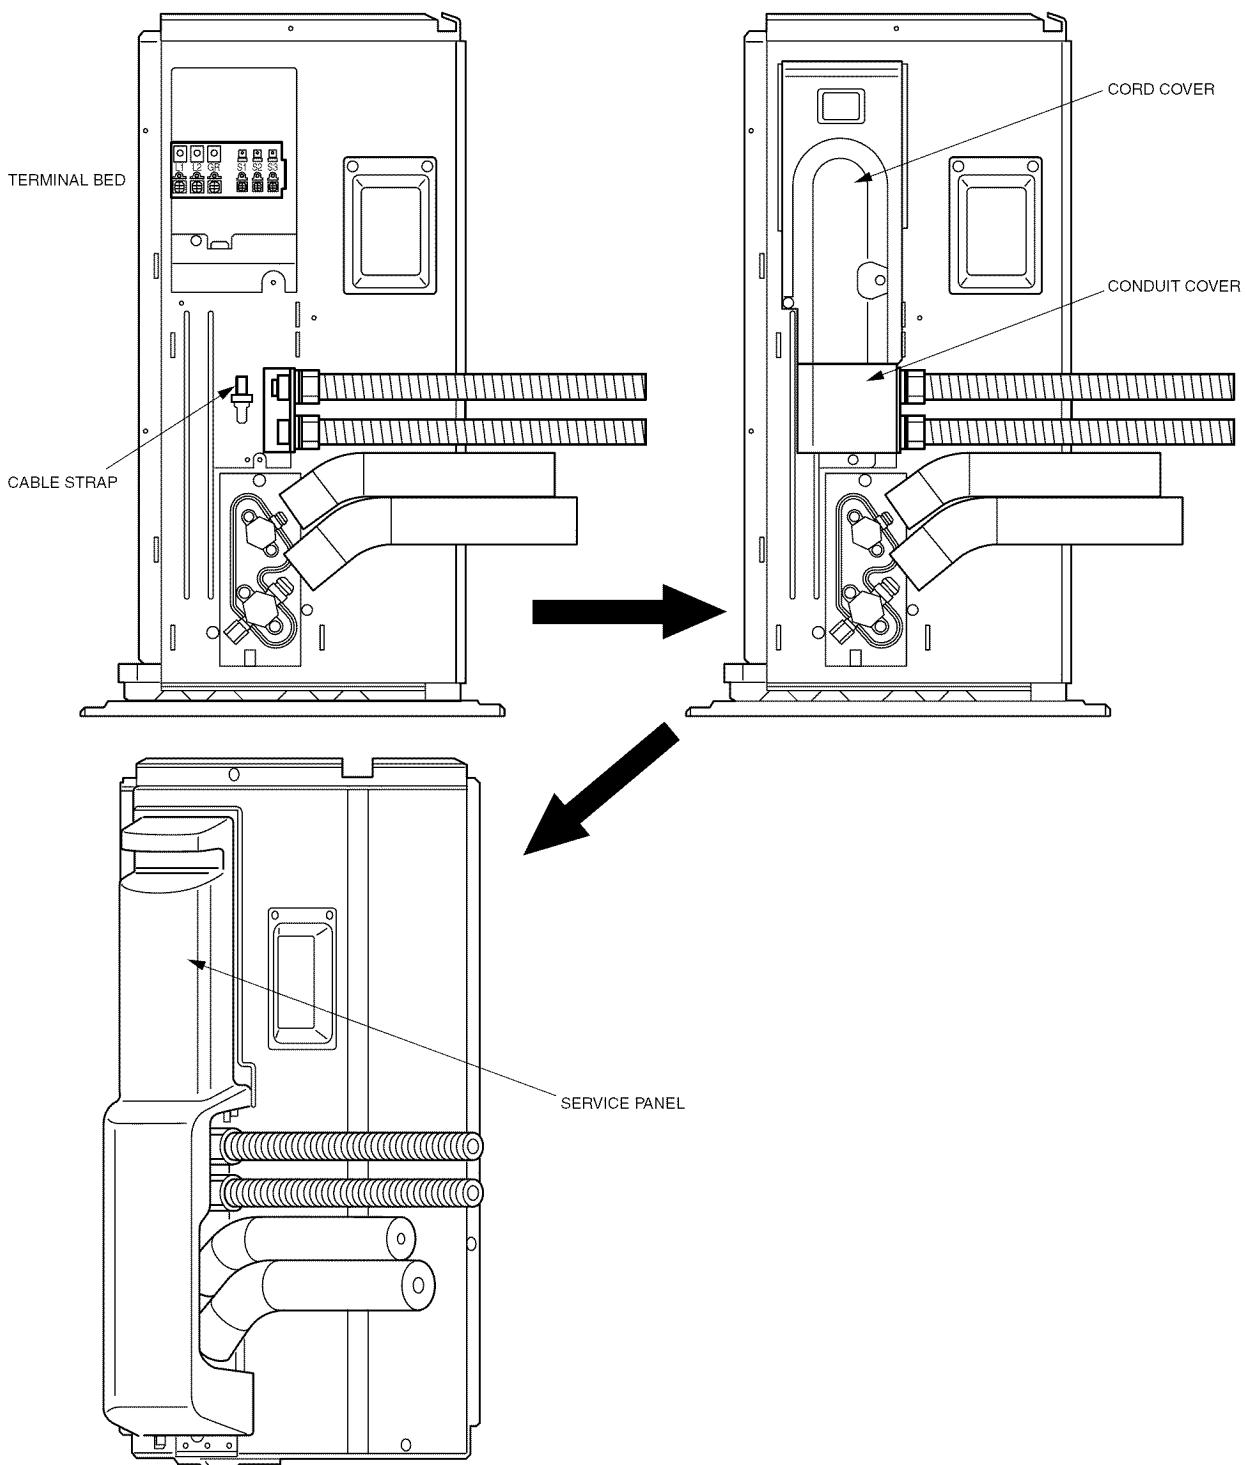
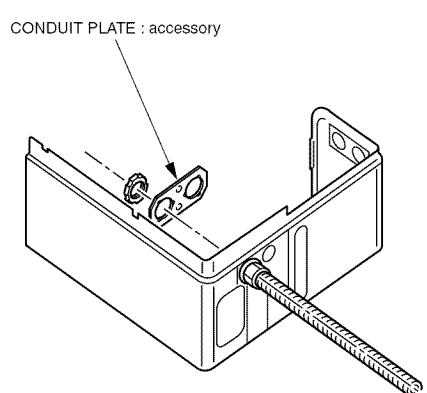

**Fig. 6-1**
**Fig. 6-2**
### 6.1. Outdoor unit (Fig. 6-1, Fig. 6-2)
- ① Remove the service panel.
- ② Wire the cables referring to the Fig. 6-1 and the Fig. 6-2.